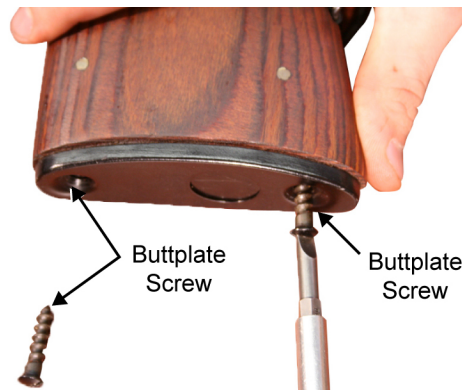

Figure 1. Removing the Buttplate Screws.
1. Using a flat head screwdriver, remove the two buttplate screws from the buttplate. Refer to Figure 1.